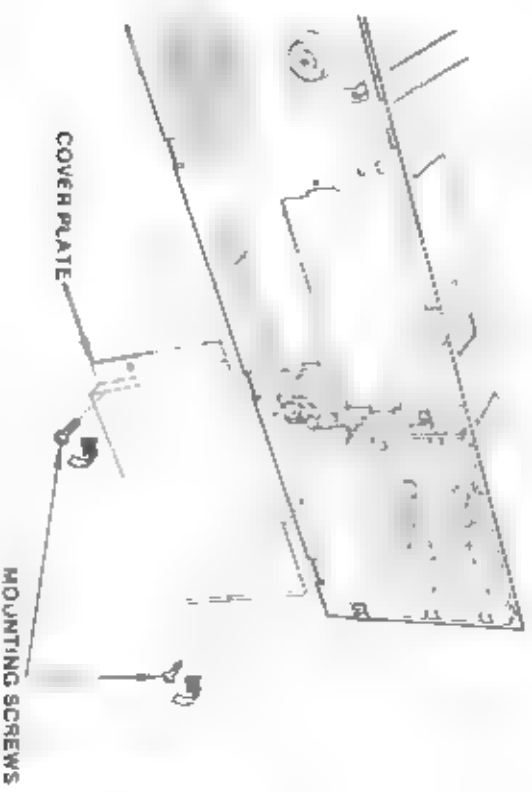

Figure 11-16 Removing the Cover Plate
2. Remove the plate covering the fixed-disk drive slot to the left of the diskette drive (Figure 11-16).